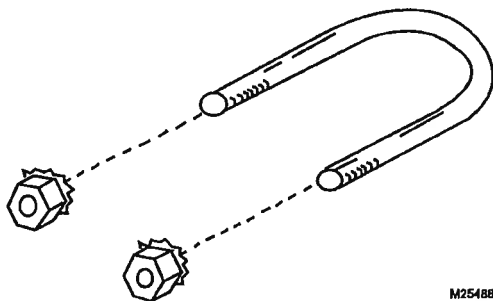

Fig. 4. U-bolt Assembly.
1. The drive shaft of the MLx984 Actuator has a 1/4-28 UNF threaded hole to link with the valve stem. Slide the yoke over the valve bonnet (Fig. 4).
3. Care should be exercised when using tools on the valve stem during tightening (Fig. 4). DO NOT damage the threads or other parts of the stem.